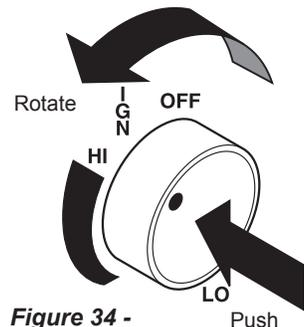

Figure 34 -
- Push in control knob and turn counterclockwise to the HIGH setting. At this location the control knob will pop out when positioned correctly. The knob can now be positioned at any position between HIGH and LOW. Figures 34 and 35